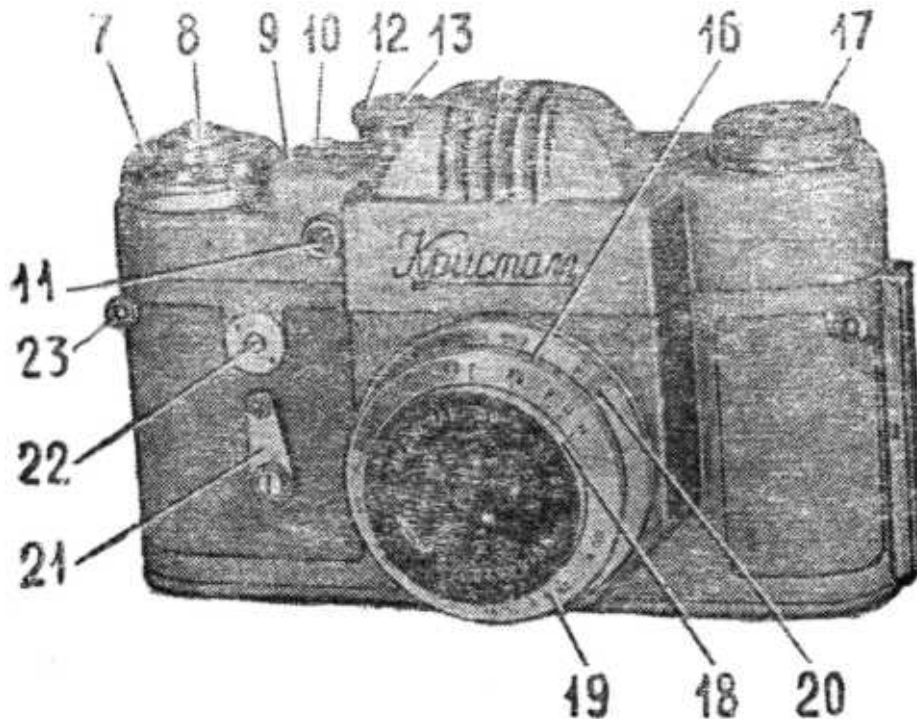

Fig. 2.
To advance the film to an unexposed frame, cock the shutter three times, pressing the trigger button 8 (fig. 2) each time after advancing the film. As you advance the film, observe whether the film rewind knob 24 rotates. If the knob does not rotate, it is necessary to check the correct loading of film in the camera. Remember that if the cartridge is loaded with less film than normal, the knob will not rotate for some time until the film is pulled taught on its spool.
2. Set the shutter speed on the shutter speed dial 12 (fig. 2).
3. Focus the image by rotating the focus ring 16 (fig. 2). **Warning:** If the image remains sharp over an interval of rotation, set the focus ring 16 in the middle of this interval.
The distance between the nearest and the most distant subjects that are sharply focused in a picture is referred to as depth-of-field. In cases when it is necessary to photograph objects of significant depth or a number of subjects located at various distances, it is necessary to use a scale 20 (fig. 2). This scale is near to the scale of distances on the focus ring 16, and has the aperture numbers located on both sides of the index. After focusing, this scale shows the boundaries of depth-of-field for the chosen aperture.